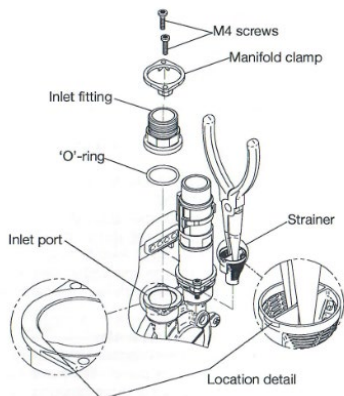

Fig 2.1 Pump inlet filter/suction strainer
- 2.2.8** check and clean pump suction strainer/inlet filter (See Fig 2.1)